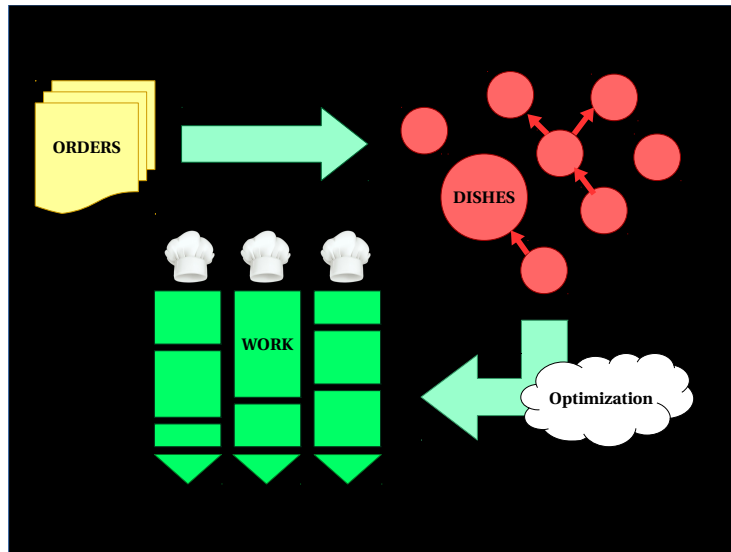
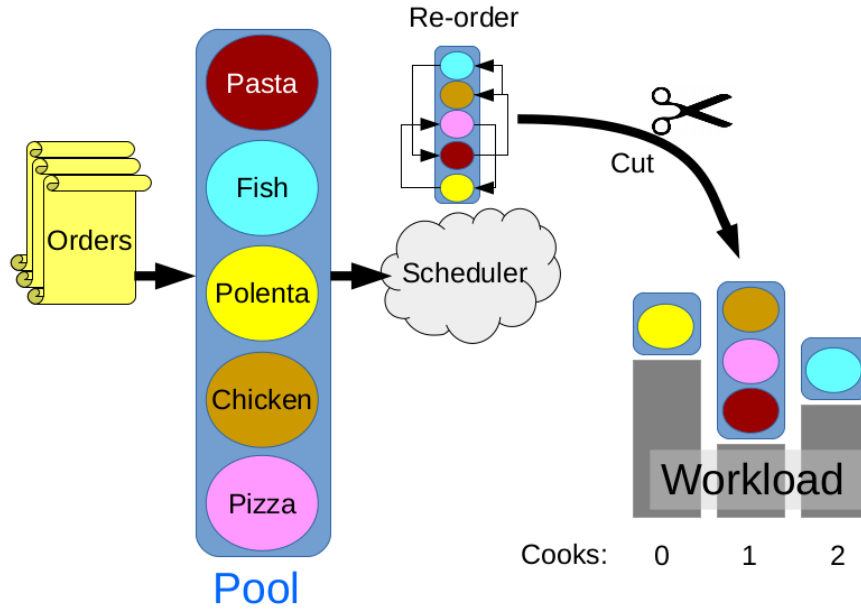

Figure 1: Overview of the problem
Figure 3: Overview of the algorithm
In figure 1 the overview of the modeled problem is represented. When implementing the code, several parts will be needed:
- **Pool** The "pool" of dishes is the container that will contain dishes' objects coming from new orders. (It is the one that should contain all the red circles in the overview figure 1). The Pool is the list in which the ordered dishes (objects in the program) are stored. This list is then passed to the scheduler, which will reorder its items in all possible ways, and then it will cut this "long strip" into pieces (one for each cooks) and will assign those pieces to the cooks. See figure 3 for a visual representation of the workflow of the algorithm.
For example, in fig. 3 an example of cut of the list of dishes is shown. From that, 3 schedules arise (which are shown directly over the cooks they are assigned to), and they are: [yellow], [red, pink, brown], and [cyan].
- **localCooksWorkloads** to make our problem realistic, we need a way to represent how much (already previously assigned) work the cooks have to finish *before* they can work on the new dishes coming from the optimal M-schedule. This variable is a list containing those times (in seconds). In fig. 3 this is depicted as gray rectangles.